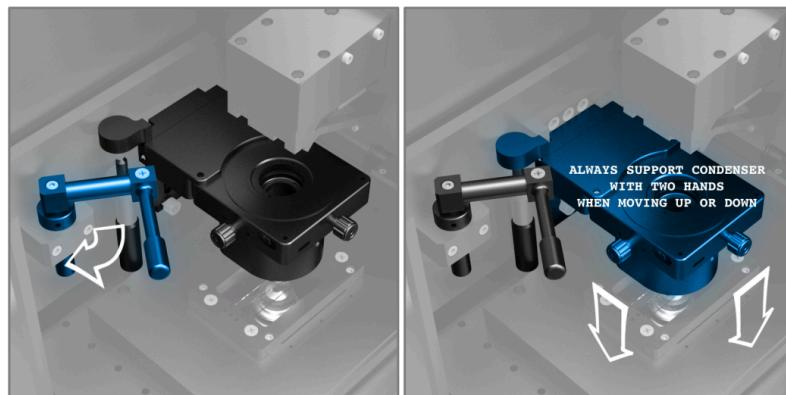

Figure 11.7.3: Releasing and lowering the manual condenser.
3. While your right hand firmly holds the weight of the condenser, use your left hand to rotate the condenser locking arm to the left to release it from its resting position (see Figure 11.7.3).